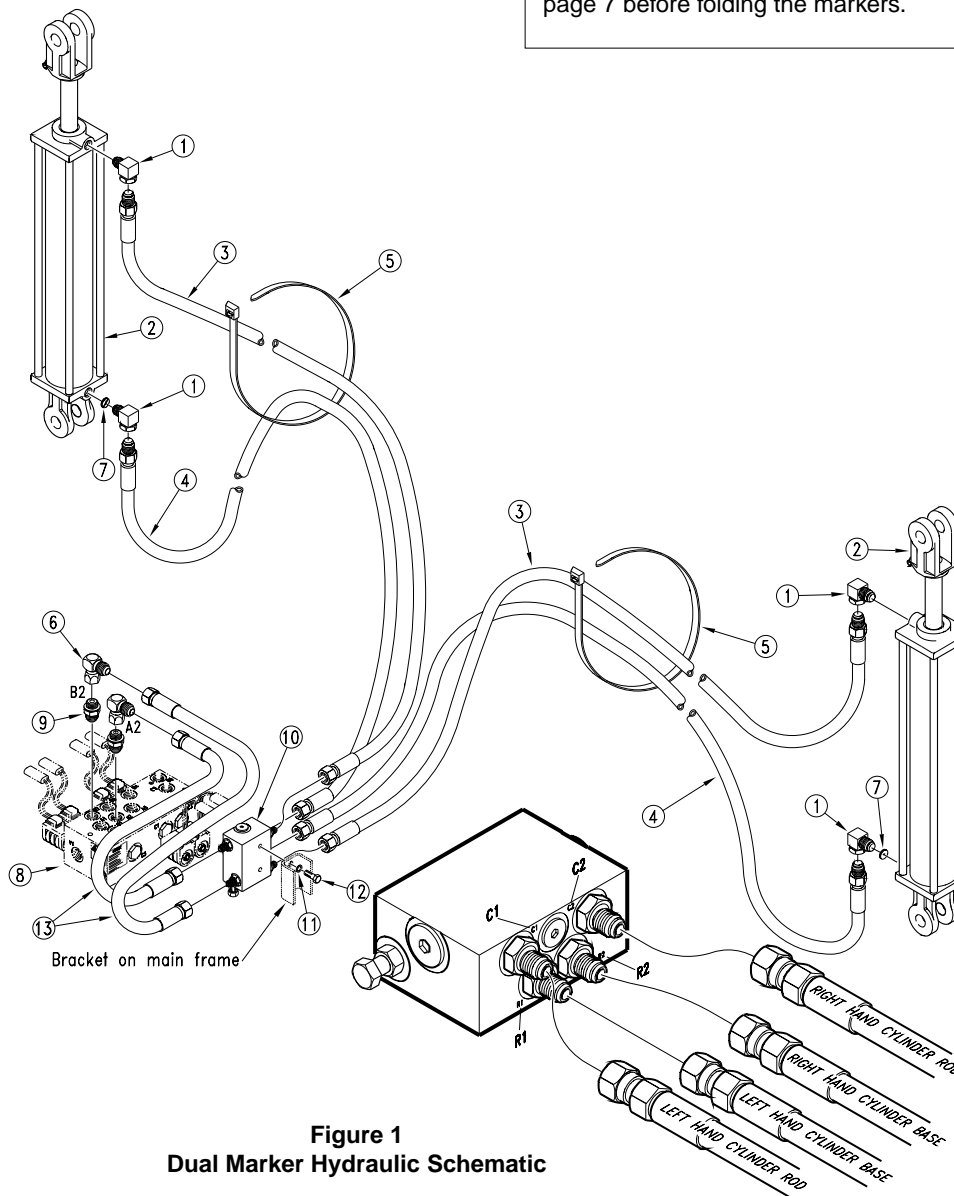

Figure 1
1. Attach the 90° swivel elbows (1) to the rod end of both marker cylinders (2). Insert the orifices (7) in the base end of the marker cylinders (2). Attach the 90° swivel elbows (1) to the base end of the marker cylinders (2).
2. Uncoil and attach hoses (3 and 4) to the swivel elbows (1). Notice that the longer hoses go to the rod end of the cylinders.
3. Attach the two adapters (9) and the 90-degree elbows (6) in the manifold valve (8) at ports A2 and B2. The manifold valve is located in the rear-center of the main frame.
4. Attach the sequence valve (10) on the mounting bracket using the lock washers (11) and 3/8 x 7/8-inch bolts (12).
5. Install hydraulic hoses (13) on the sequence valve (10). Connect port A2 on the manifold valve (8) to port 2 on the sequence valve (10). Connect port B2 on the manifold valve to port 1 on the sequence valve.
6. Connect the four hoses coming from the marker cylinders to the sequence valve. Connect the base-end hoses (4) to ports R1 and R2 (10) and the rod hoses (3) to ports C1 and C2 as shown.
7. Route the hoses coming from the marker cylinders through the frame member cut-outs and hose clamps. Run the hoses parallel to the hoses feeding the outer gauge-wheel cylinder as shown in Figure 1 on page 5.
8. Fine tune the hose placement. Make a generous loop in both hoses near the box flex hinge. This loop should be large enough to allow the outer wing to flex without the hoses pulling tight. Maintain the loops by clamping the hoses in the center hole of the existing hose clamps. Use the split rubber sleeves as bushings between the clamps and the marker hose. Use the cable ties (6) supplied with the kit to hold the hoses away from any pinch point.